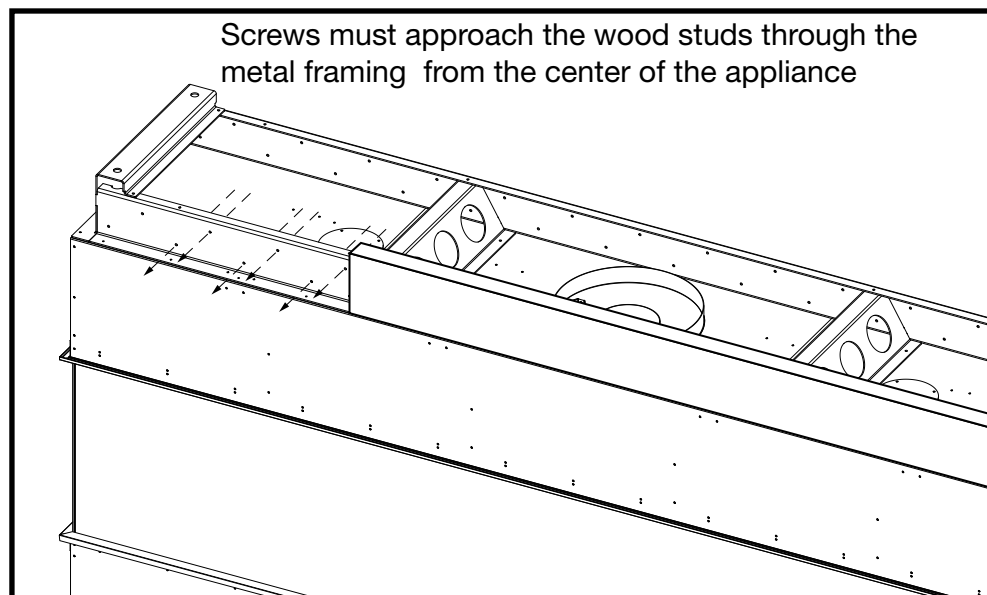

Figure 3: Stud securing points for bottom intake models.
1. When securing the top of the unit to the wooden studs, the screws must come through the metal framing from the center of the unit (Figure 3).